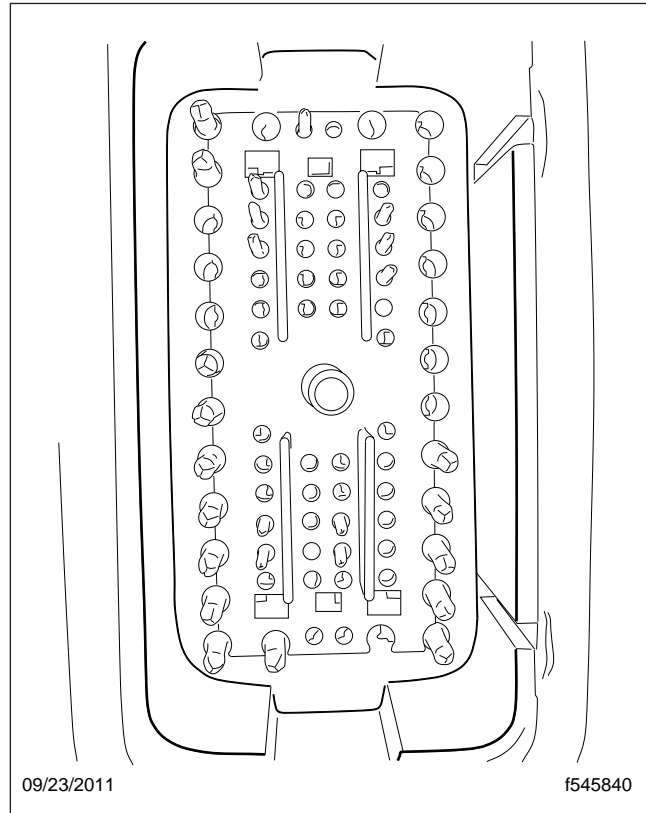

Fig. 4, Bulkhead Connector
- 2.13 Install the green bulkhead connector on the frontwall. Install the four bolts and tighten securely. Connect the bulkhead connector. See Fig. 4.